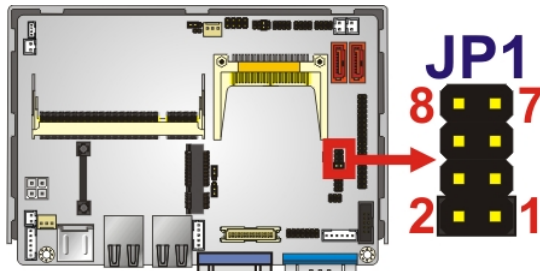

Figure 4-8: COM3 RS-232/422/485 Selection Jumper Location
- Jumper Location:** See Figure 4-8